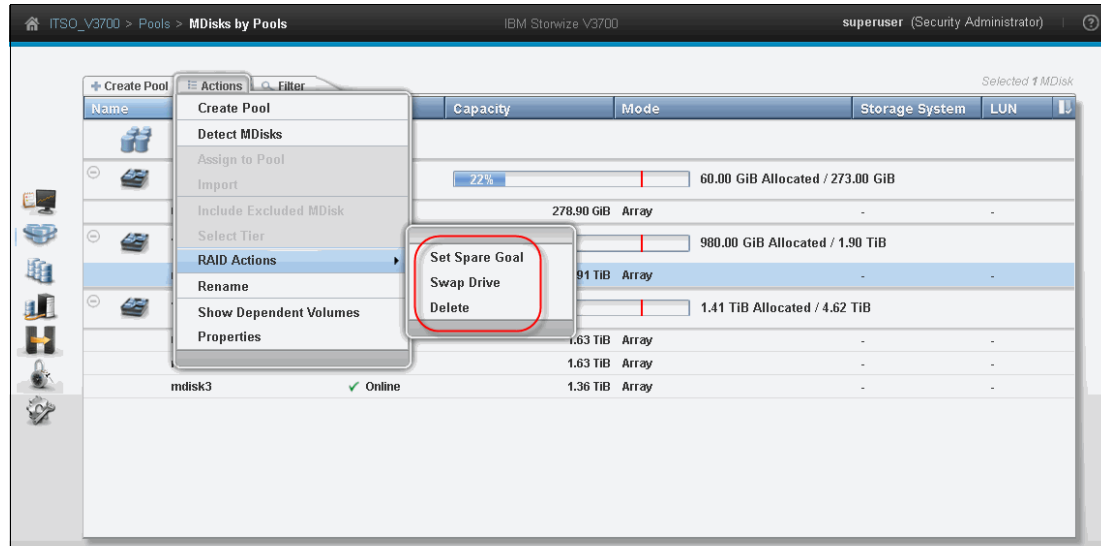

Figure 7-43 MDisk RAID actions
2. Then, click **Actions** → **RAID Actions**, as shown in Figure 7-43.